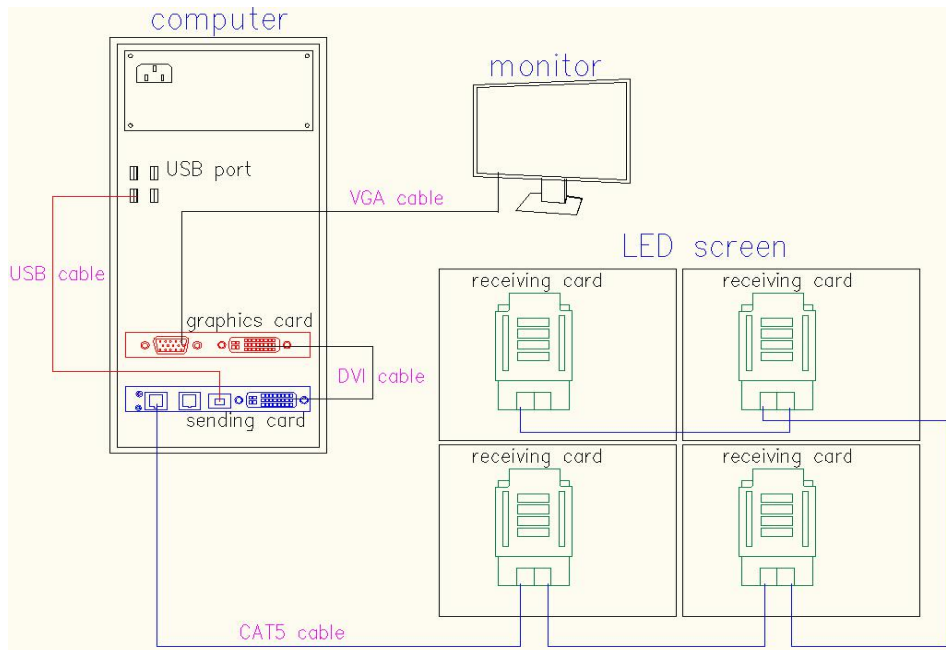

Figure. 4.3 Schematic diagram of Connecting the screen through the desktop computer
(1) desktop computer with screen connection, as shown in figure 4.3: